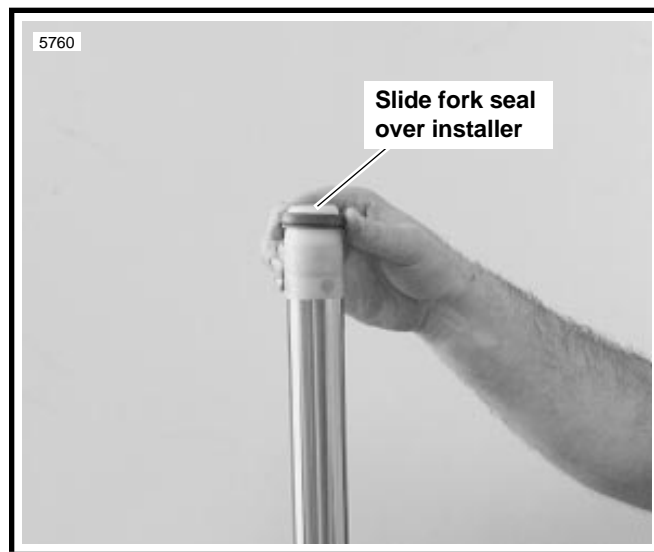

Figure 2-33. Installing New Fork Seal Using Front Fork Bushing/Seal Installer (Part No. B-41176)
1. Install **new** fork seal retaining ring (14) and spacer ring (13) on inner tube.
2. See Figure 2-33. Using **FRONT FORK BUSHING/SEAL INSTALLER** (Part No. B-41176), install **new** fork oil seal on inner tube. External spring on fork oil seal faces bottom of fork leg.